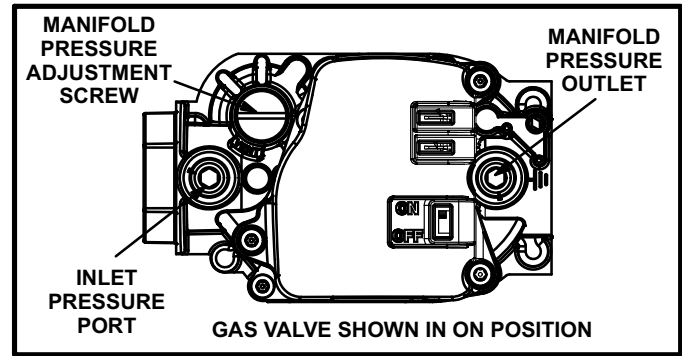

FIGURE 53
Gas Valve Operation (Figure 53)
- 6 - Move gas valve switch to **OFF**. See figure 53.
- 8 - Move gas valve switch to **ON**. See figure 53.